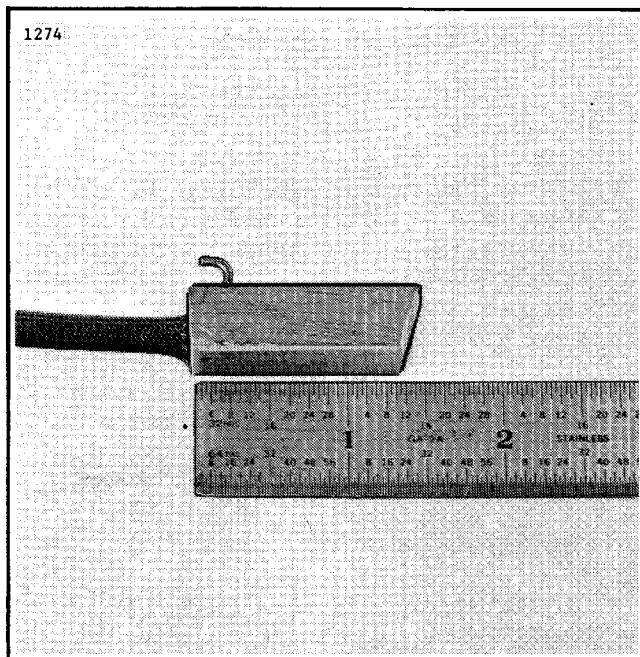

Figure 6-44. Measuring Brush Length
2. Check brush length (Figure 6-44). If any brush is worn to its minimum length when measured at its shortest point, new brushes are needed. Replace brushes in sets of four only.